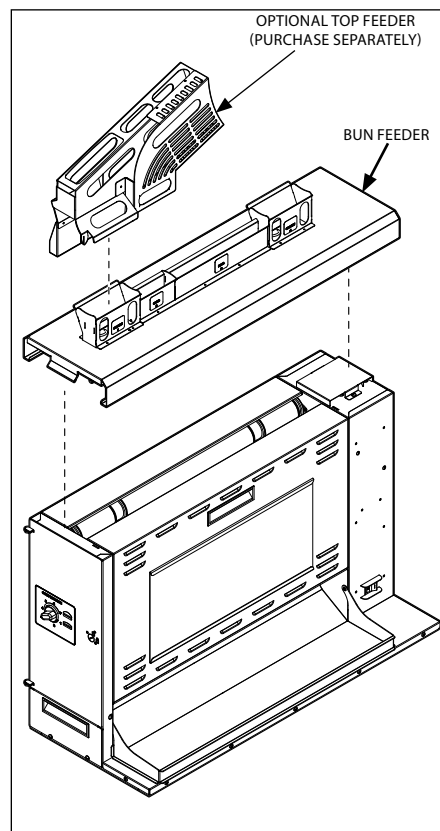

Figure 5. Bun Feeder
2. Put on neoprene gloves. Remove the optional Top Feeder (if present). Remove the Bun Feeder and Angular Bun Feeder (Figure 5).